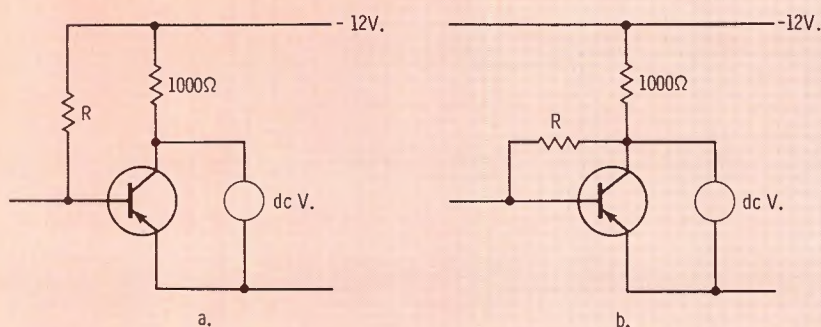

FIG. 5
For grounded emitter operation, the two methods of bias are shown in Fig. 5. These methods are (1) resistor from supply to base; (2) resistor from collector to base. The second method provides some DC negative feedback which minimizes changes in operating point due to parameter changes. Now the value of R can be calculated for various values of current gain and collector resistance. For calculations in the circuit of Fig. 5A, the current passed by R1 is multiplied by the current gain, and the drop due to this amplified current through the collector resistor is subtracted from 12 volts.